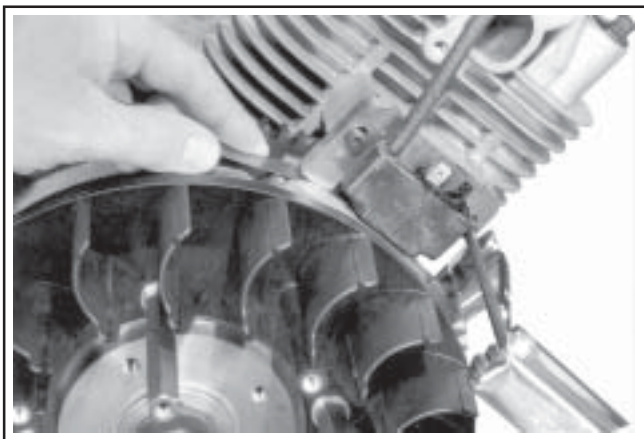

Figure 11-46. Setting Ignition Module Air Gap.
2. On engines equipped with SMART-SPARK™, both modules are installed the same way – with the two tabs out. See Figure 11-46 and 11-52.
5. Insert a **0.30 mm (0.012 in.)** flat feeler gauge between the magnet and the ignition module (see Figure 11-46). Loosen the screws enough to allow the magnet to pull the module against the feeler gauge.